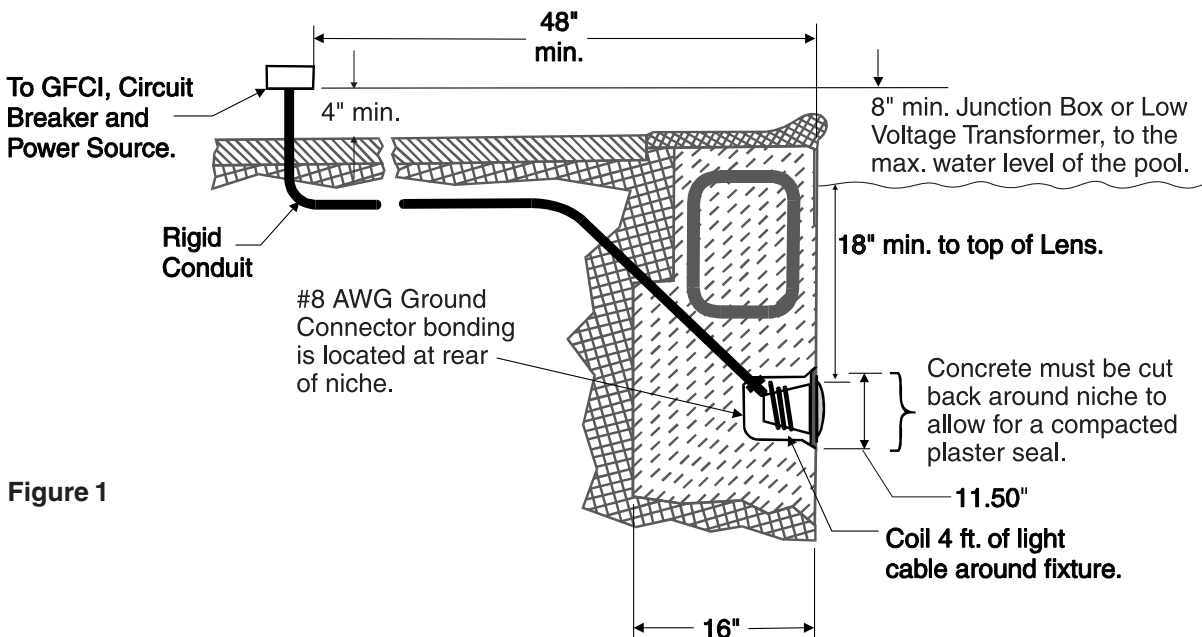

Figure 1
**BEFORE STARTING:** The following steps (1-6) describe the tasks that must be completed by the electrician before the IntelliBrite light fixture is installed. See Figure 1 diagram.
- The Junction Box (or, for 12 volt models, the low voltage transformer) is located at least 8 inches above the maximum water level of the pool and at least 48 inches from the edge of the pool; see Figure 1.
- The wet niche is properly installed so that the top edge of the underwater light's lens is at least 18 inches below the surface of the water in the pool; see Figure 1. (Not more than 20" depth in Canada.)
- The wet niche is properly electrically bonded and grounded via the No. 8 AWG ground connector located at the rear of the niche; see Figure 1.
1. Feed cord through conduit to Junction Box, leaving at least four (4) feet of cord at the light fixture to coil around the light; see Figure 1. This four (4) feet of cord around the light allows the light to be serviced after the pool is filled with water.
- The Junction Box (or, for 12 volt models, the low voltage transformer) is located at least 8 inches above ground level and at least 48 inches from the edge of the pool; see Figure 1.
- The wet niche is properly installed so that the top edge of the underwater light's lens is at least 18 inches below the surface of the water in the pool; see Figure 1.
5. Leave at least four (4) feet of cord to coil around the light fixture; see Figure 1 on page 2. This four (4) feet of cord coiled around the light allows the light to be serviced after the pool is filled with water.
6. Cut the cord at the Junction Box, leaving at least size (6) inches of cord to make connections.
7. Strip six (6) inches of the outer cord jacket from the cord to expose the three insulated wires – be careful not to damage the insulation on the three inner wires.
**WARNING** - Never operate this underwater light for more than ten (10) seconds unless it is totally submerged in water. Without total submersion, the light assembly will get extremely hot, which may result in serious burns or in breakage of the lens. This may result in serious injury to pool users, installers, or bystanders, or in damage to property.
10. Fill the pool until the IntelliBrite underwater LED pool light is completely submerged in water before operating the light for more than ten (10) seconds. Switch on main switch or circuit breaker, as well as the switch which operates the underwater light itself to verify that the light is operating correctly.